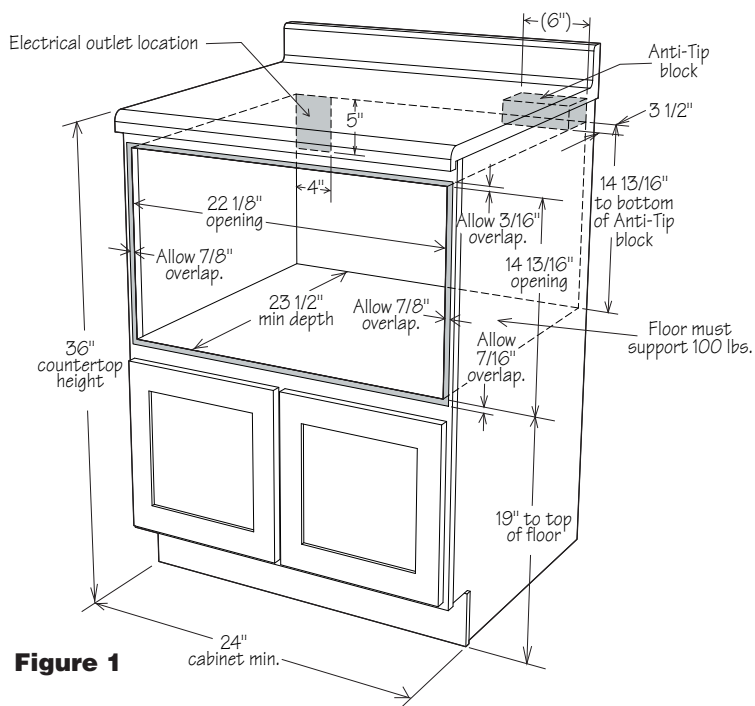
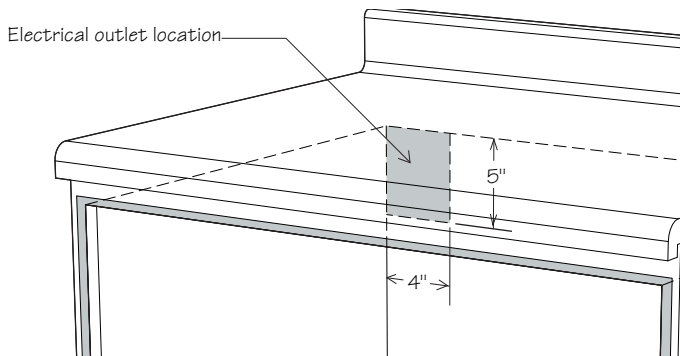

Figure 1
Figure 7
For **SAFETY CONSIDERATIONS** do not install drawer in any combustible cabinetry, which is not in accord with the stated clearances and dimensions on pages 2 and 3. See Figure 1 (for 24") or Figures 3 and 4 (for 30") .
- Dimensions that are shown in Figure 1 (for 24") or Figures 3 and 4 (for 30") must be used. Given dimensions provide minimum clearance. Locate electrical outlet in the shaded area in the upper left-hand corner of the cutout. See Figure 7.
Figures 1 and 2 contain many Microwave Drawer measurements for reference when planning the drawer's location.
To reduce the risk of tipping of the drawer, the Anti-Tip block must be properly installed located 14 3/4-inches above the floor on which the Microwave Drawer will sit. The 6-inch Anti-Tip block must be provided by the installer. See Figures 1 and 6 (for 24") or Figures 3, 4 and 6 (for 30"). The Anti-Tip block prevents serious injury that might result from spilled hot liquids.